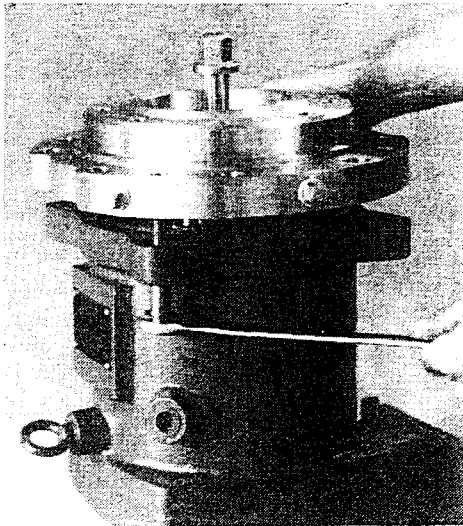

Figure 20
7. Place two M20 bolts (spaced at 180 degrees) into the threaded ears of the frame adapter to jack the rear casing away from the frame adapter [Fig. 20]. Jack evenly to avoid binding between the rear casing and outer magnets.